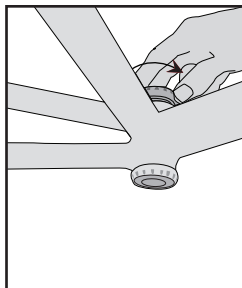

Figure 5 Start the threads of the left cup by hand
4. Start the threads of the left cup by hand (Figure 5). The left cup has left-hand threads.